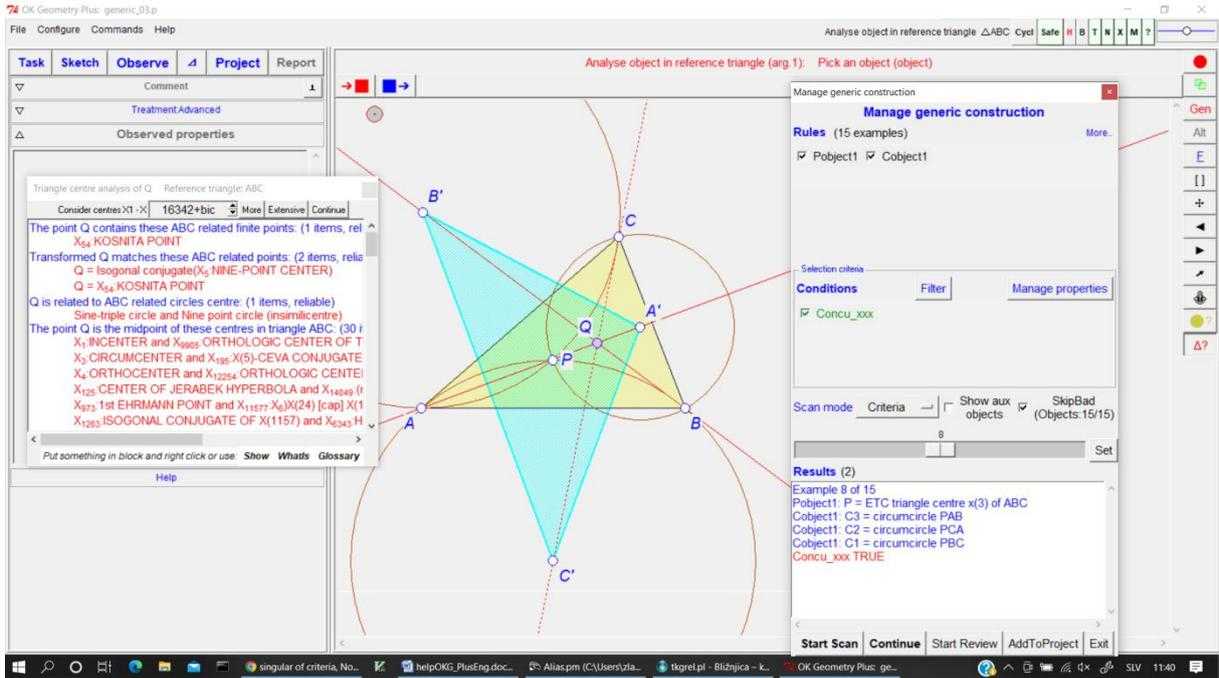

Figure 66
6. If you want to examine the position of point Q in the reference triangle ABC, simply activate the **Analyse object in reference triangle** command (or press the corresponding button on the toolbar in the right) and pick the point Q. Figure 66 shows the output in one of the examples of generic construction (note that we set the number of centres considered to about 16000 and used the **More** option).